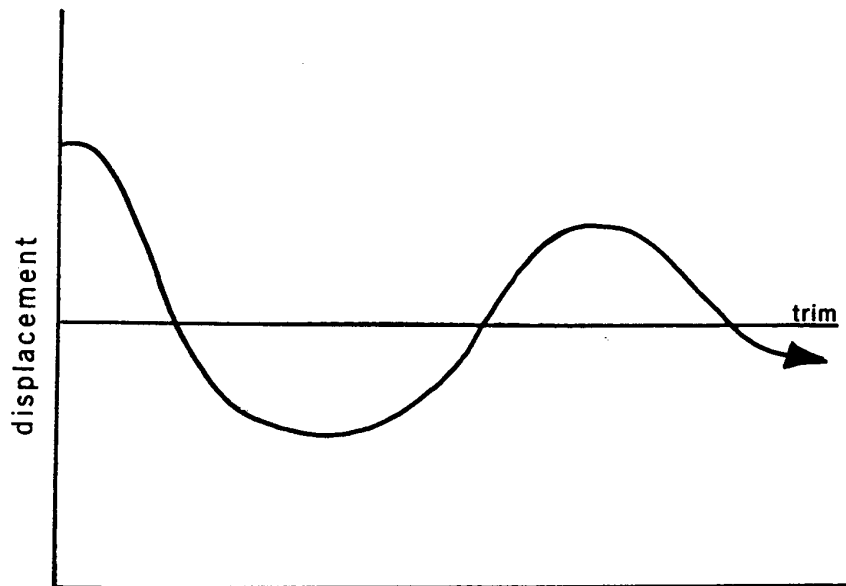

FIGURE 9. Time
**d. Dynamic Stability:** is the **time** history of the movement of the aircraft in response to its static stability tendencies following an initial disturbance from equilibrium (figure 9).
(1) This test should be done first. All tests should be conducted with the aircraft in the forward of center CG. Climb to at least 6,000 feet AGL and trim the aircraft for zero stick force in straight and level flight at low cruising speed. (Note: Do not retrim the aircraft once the test has begun.) Apply a light “pull” force and stabilize at an airspeed about 10 percent less than the trimmed cruise speed. At this reduced airspeed it should require a “pull” force to maintain the slower speed.